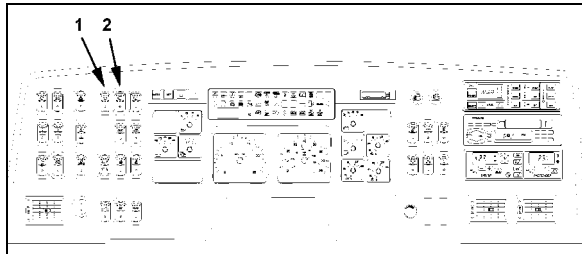

FIGURE 38: DASHBOARD
4. Adjust the rod located between right pivot shaft and motor to a 40.5° angle (Fig. 38). The motor lever must be on the same axis as the rod.
3. Loosen clamping screw retaining the lever at the end of the motor driving shaft (Fig. 38).